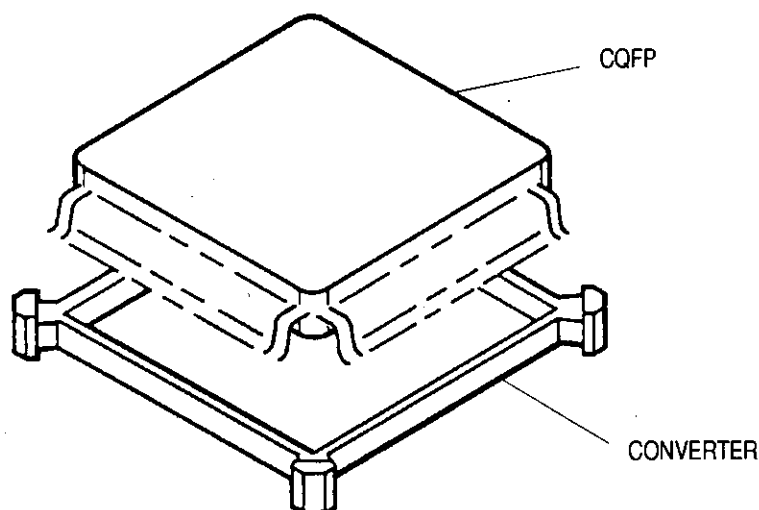

Figure 3
2. Place CQFP device over converter with "gullwings" hanging down toward flat surface (see Figure 3).